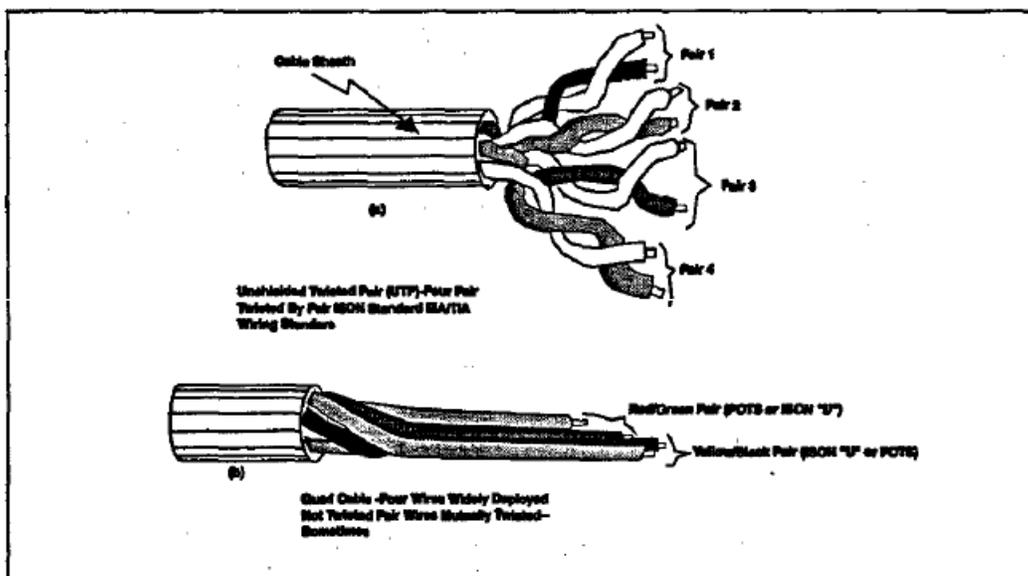

Figure 4.5
- The existing premises wiring is either quad cable or UTP as shown in Figure 4.5.
Most homes have customer premises wiring that is composed of quad cable which has two pairs within it (see Figure 4-5). Newer installations could be using UTP cable which has many pairs within in (see Figure 4-5). If there is only one pair found in the customer premises wiring, then there are no spare pairs; in order to install the ISDN U-interface, proceed to Section 5, which will explain how to install new wiring for ISDN. Figure 4-5 shows some examples of different types of wires that could be found in the building.
Mount the service outlet that will be used for ISDN access directly next to the existing service outlet. Be sure to make note for which service outlet is used for POTS and which service outlet will be used for ISDN. Remove the cover of both service outlets. Find the spare pair of conductors that you have decided to use for ISDN in the service outlet for POTS. Connect these two conductors to the two center pins of the new ISDN service outlet. When you make the connection of the spare pair to the ISDN service outlet you can either; remove the spare pair from the POTS service outlet completely or you can wire between the two service outlets (see Figure 4-5, alternate wiring configuration). (Note: the actual method of connecting the wires maybe